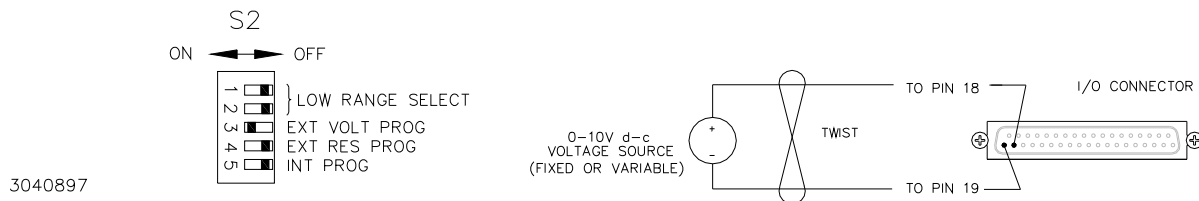

FIGURE 3-2. EXTERNAL VOLTAGE PROGRAMMING OF OUTPUT VOLTAGE
- c **External Voltage Programming:** When enabled via S2-3, this mode provides for output voltage adjustment via an external voltage source (0-10V) connected between pins 18 and 19 (VPROG, -S) of the I/O connector (see Figure 3-2). This technique is useful when implementing digital control of the power supply output voltage via a D/A converter; Kepco's SN/SNR 488 programmers are ideally suited to these requirements